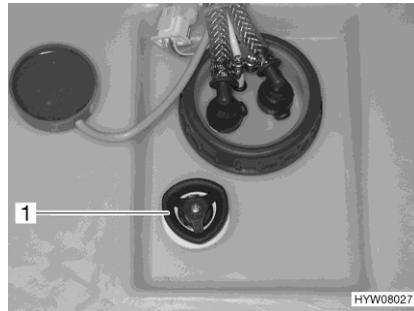

Fig. 141 Rotary handle (water tank)
- Turn the rotary handle (Fig. 141,1) on the water tank in an anticlockwise direction up to the first catch. Excess water will drain away leaving approx. 20 litres in the tank.
- Turn the rotary handle (Fig. 141,1) on the water tank in a clockwise direction as far as it will go.
- Turn the rotary handle (Fig. 141,1) on the water tank in an anticlockwise direction as far as possible beyond the resistance to fully open the drainage opening.